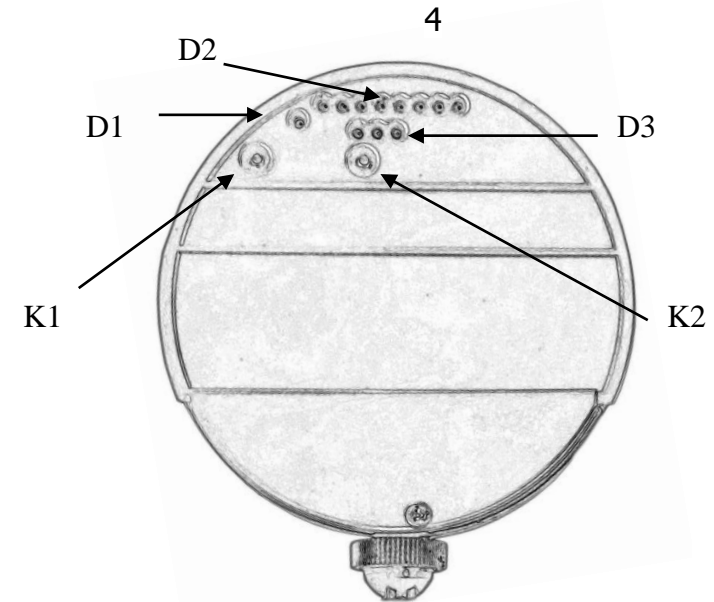

Figure 2
- Switch on the device by pushing the K1 button, the Power On LED indicator (D1) will light green (Fig.2). After a short initial light of all device diodes, on the D3 scale the number of LEDs corresponding to the battery voltage should light up. Point the antenna system in a direction where there are no any objects at a distance of at least 2 meters. Then LED indicator of detectors (D2) goes off (the rarely flashing of the first LED indicators D2 is acceptable).
EH-NLJD-simple controls are located on the face panel of the main unit. Description of the buttons and scale are shown in figure 2.